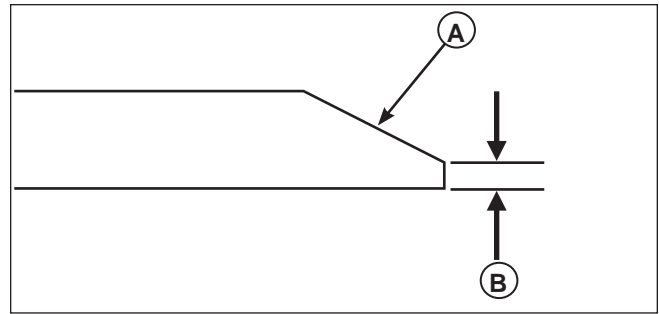

Figure 29. Sharpening the Mower Blade
3. Keep the original bevel (**A**, **Figure 29**) when grinding. DO NOT change the mower blade bevel.